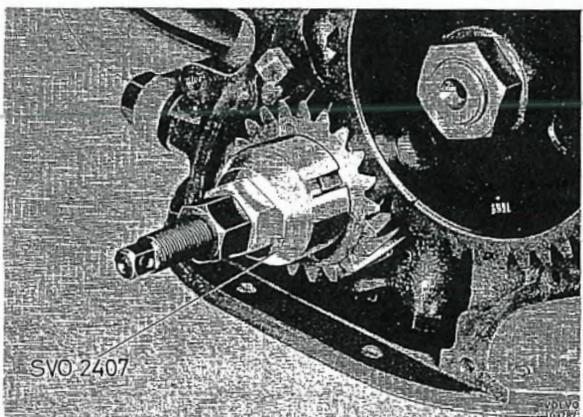

Fig. 2-42. Installing crankshaft gear
6. Fit the crankshaft gear by using tool 2407 and the camshaft gear by using 2408, see Figs. 2-42 and 2-43. Fit the hub on the crankshaft. Do not push the camshaft backwards so that the seal washer on the rear end loosens.